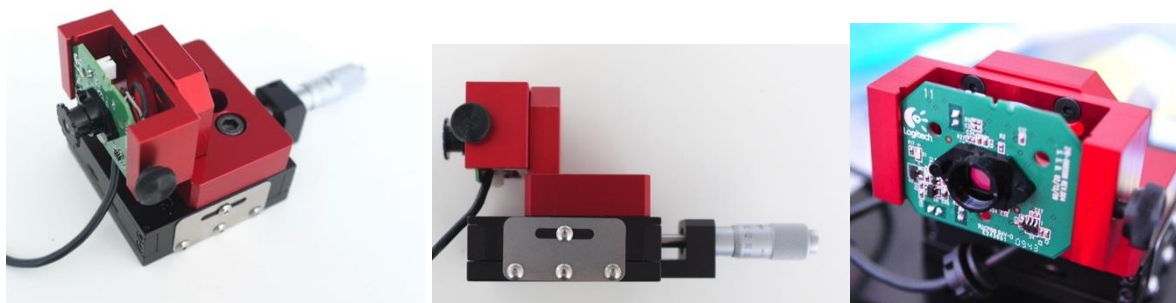

Figure13 Mechanical holder to fix the camera. Unscrew the original objective to that the IR filter becomes visible.
- Take care that the original objective of the camera is not installed (Fig. 13)